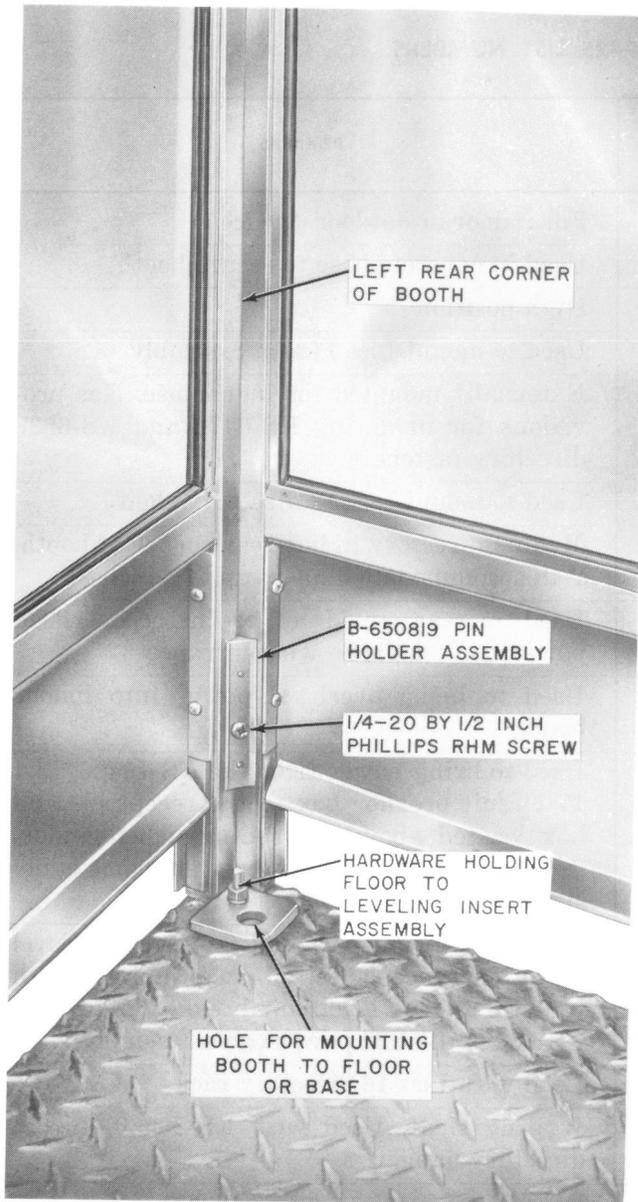

Fig. 8—Leveling Insert Assembly
2.24 Adjustable leveling inserts (Fig. 8) are provided to facilitate booth leveling up to 2 inches. The leveling insert assembly is also used for bolting the booth to its mounting surface.